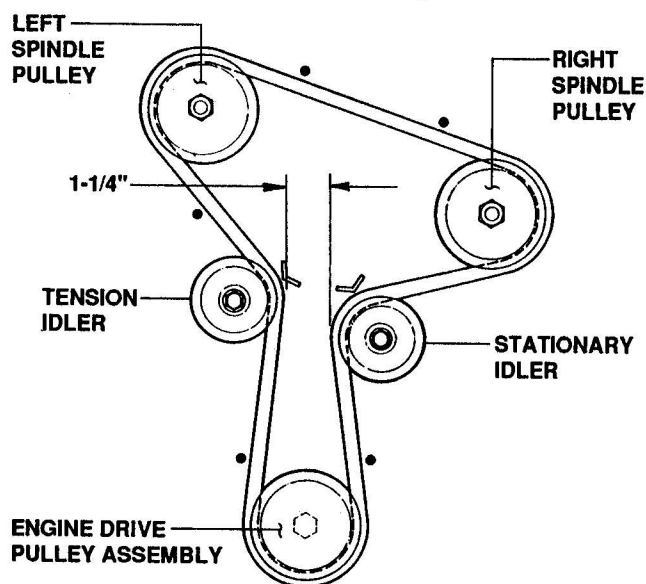

FIGURE 4.1
3. Measure the distance between belt at idler pulleys. The distance should measure 1-1/4" but no less than 1". See Figure 4.1.